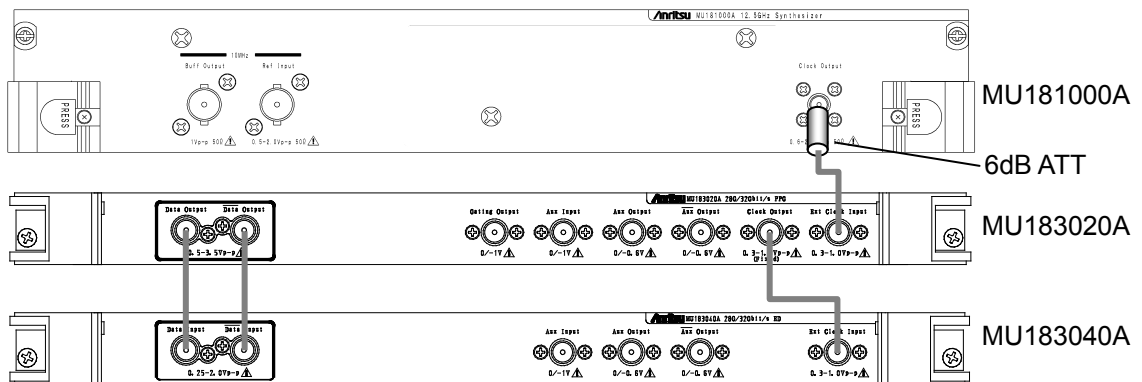

Figure 8.3.1-1 Connection diagram for operating frequency range test
4. Connect the measuring instrument cables as shown in Figure 8.3.1-1.
6. After warming up the instruments, enable the MP1800A signal output (ON) to output signals from the MU183020A.